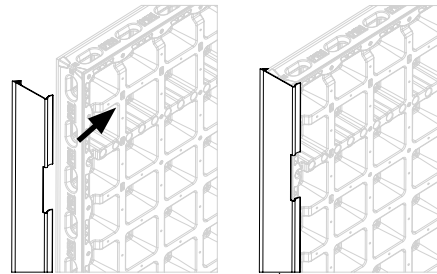
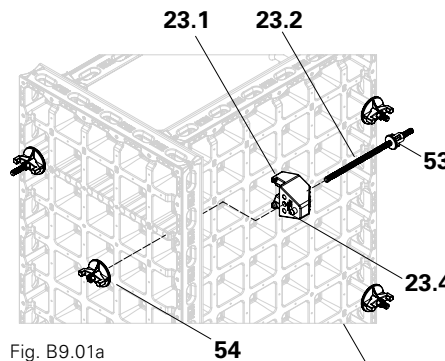

Fig. B9.01
Fig. B9.01a
1. Attach a DUO 135 chamfer strip (29) to both DP 135 x 90 panels. (Fig. B9.01)
2. Disassemble the DUO corner connector (23), screw the cam nut (53) onto the corner tie.
5. Insert the steel pin (23.4) of the DUO 62 corner connector (23.1) into the appropriate tie point of the multi panel. (Fig. B9.01a)